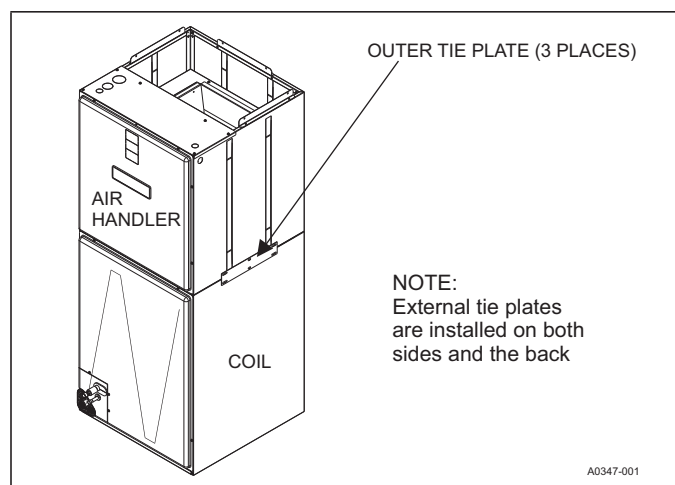

FIGURE 3: Coil and Air Handler Attachment Details
2. Attach three tie plates to external sides and back of air handler casing using screws. See Figure 3.
4. Attach the three tie plates to coil casing using screws. See Figure 3.